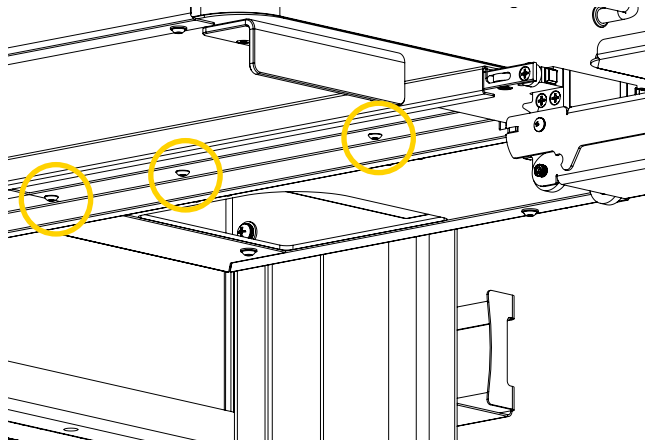

Figure 17: Tightening the screws on the right-hand side of the 2-part sliding mechanism (1 of 2)
- F. Pull the tray horizontally to retract it and access the three (3) first inner screws located under the rail on the right-hand side of the mechanism (Figure 17), then tighten the screws using a $\frac{1}{8}$ in. hex key.